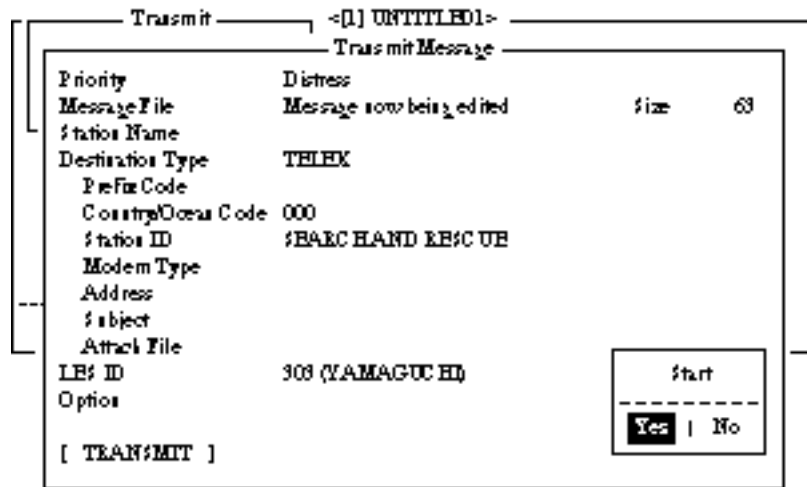

Figure 6-9 Transmit message screen with send start confirmation prompt
13. Press [Enter]. The display should look similar to Figure 6-9.